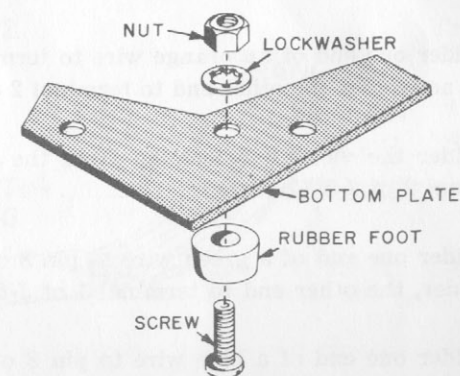

FIGURE 25. MOUNTING FEET ON THE BOTTOM PLATE
- See Figure 25. Mount the 4 feet on the bottom plate. Use 6-32 screws, lockwashers and nuts.